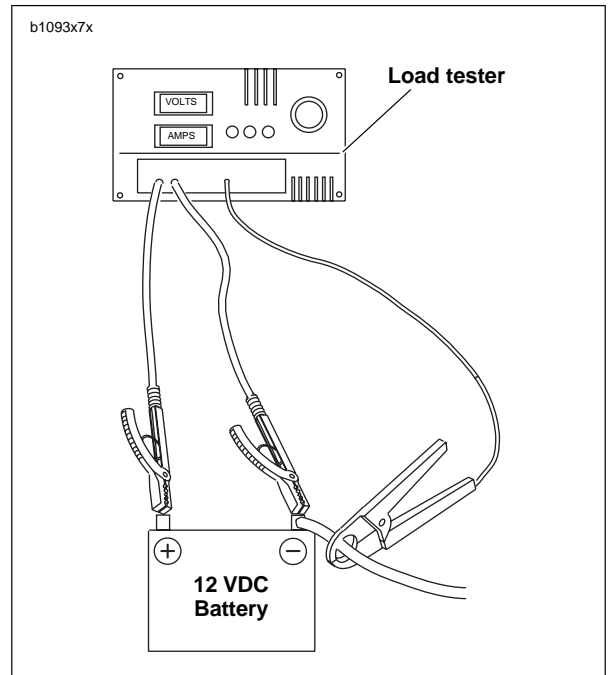

Figure 7-29. Check Current Draw (Ignition Switch On)
1. See Figure 7-29. To check for this condition, place load tester induction pickup or current probe pickup over battery negative cable.